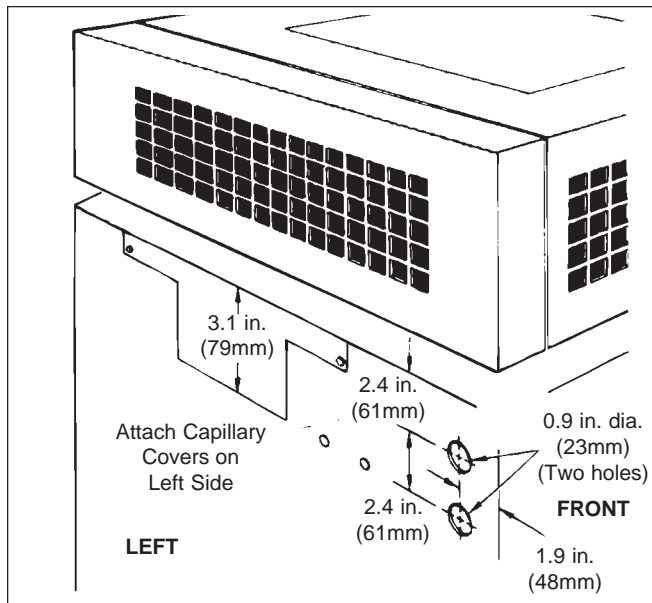

Figure 18. Hole location, left side.
18. Use a chassis punch to put two 7/8 inch (22 mm) holes in the front left side of the jacket (see Figure 18).